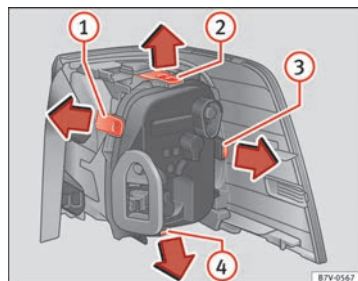

Fig. 214 Tail lights on bodywork: To remove the lamp holder. ① to ④: Attachment tab
9.	To release the lamp holder, press on the attachment tabs ⇒ Fig. 214 ① to ④ in the direction of the arrow.